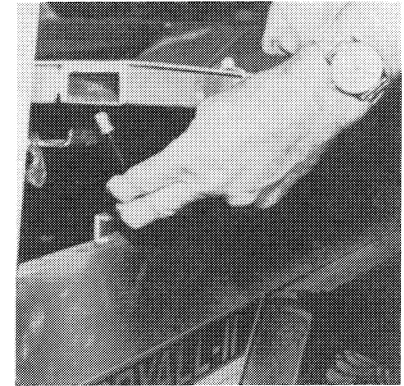

Figure 14
2. To lift bed, push latch handle toward rear of vehicle, and lift bed (See Figure 14).